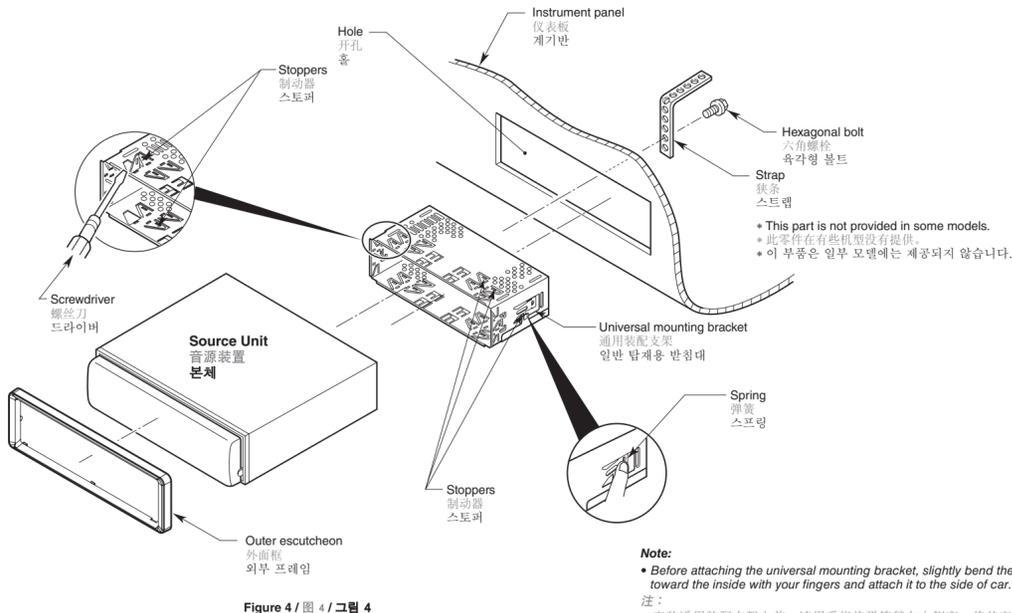

Figure 4 / 图 4 / 그림 4
- Place the universal mounting bracket into the instrument panel, use a screwdriver to bend each stopper of the universal mounting bracket inward, then secure the stopper as shown in Figure 4.
- 将通用装配支架放入仪表板内，用螺丝刀将通用装配支架上的各个制动器向里弯，然后如图4所示固定制动器。